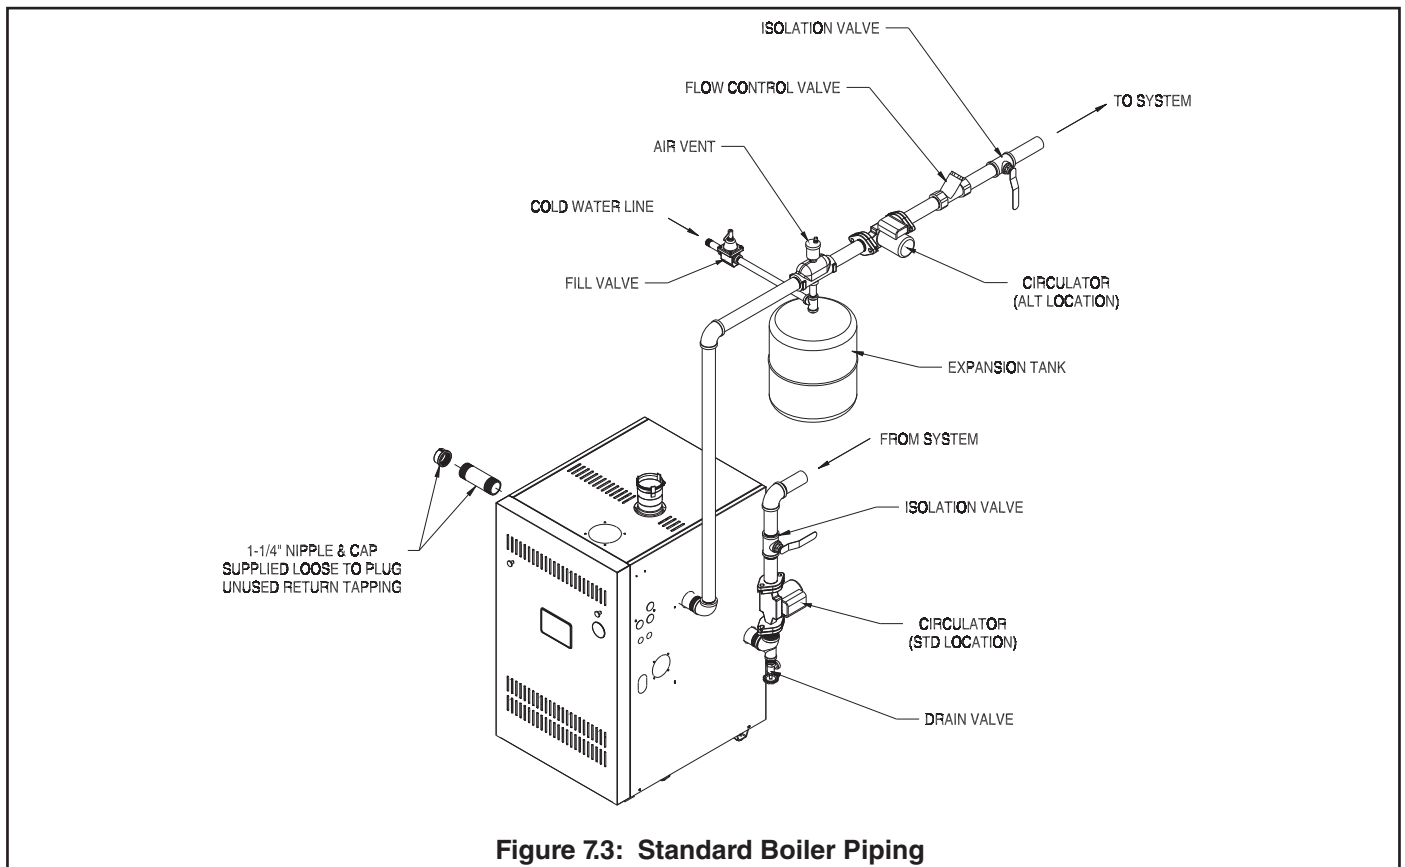

Figure 7.3: Standard Boiler Piping
Figure 7.3 shows typical boiler system connections on a single zone system. Additional information on hydronic system design may be found in the I=B=R Guide RHH published by the Air-Conditioning, Heating and Refrigeration Institute (AHRI). The components in this system and their purposes are as follows:
2. Circulator (Required) - The circulator is shipped loose with the boiler. Fittings are provided to mount it on the boiler return as shown in Figure 7.3, however it can be installed on the boiler supply. If the circulator is moved to the supply it should be positioned just downstream of the expansion tank as shown in Figure 7.3.
10. Drain Valve - The drain valve is shipped in the boiler parts bag. Install it in the tee under the circulator as shown in Figure 7.3.